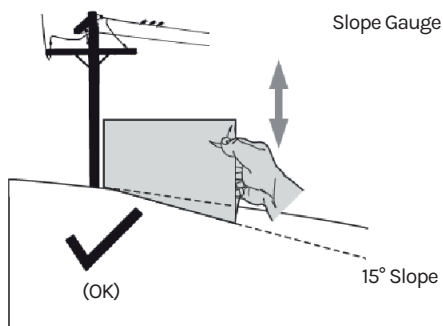
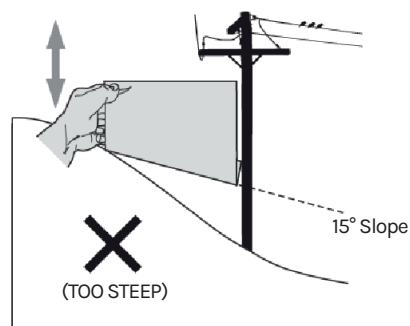

Figure 1
Figure 2
3. Align the slope gauge with the vertical object (see Figure 1 and Figure 2).